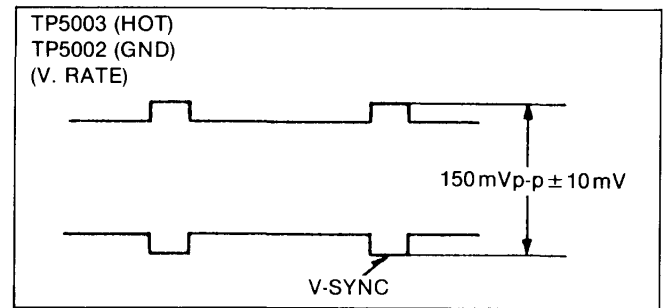

Figure E18
4. Adjust VR3002 so that the luminance signal level is 150 +/- 10mVp-p as shown in Figure E18.